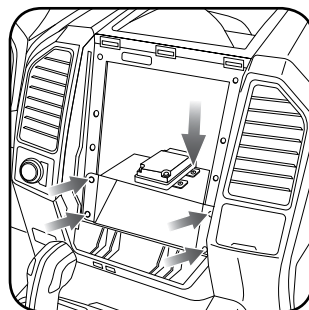

Fig. 9.0
11. Mount the camera module to the supplied mounting bracket using 3 M6 bolts and washers, included with the FTR1 kit. Connect it. Insert in dash (area where OEM radio was) and secure it with (4) 7mm screws. (Fig. 9.0)